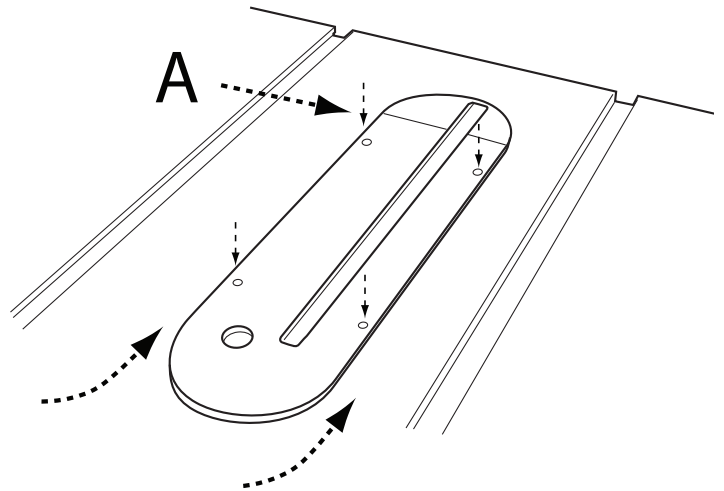

FIGURE 8
1. To install throat plate, lower blade below tabletop, then carefully feed the throat plate, slotted end first, from the front of the table to the rear, keeping the blade centered within the slot on the throat plate. See Figure 8. The plate should rest within the cavity in the tabletop.
3. If the throat is not flush with the tabletop, adjust the height of the throat plate using the four set screws (A).